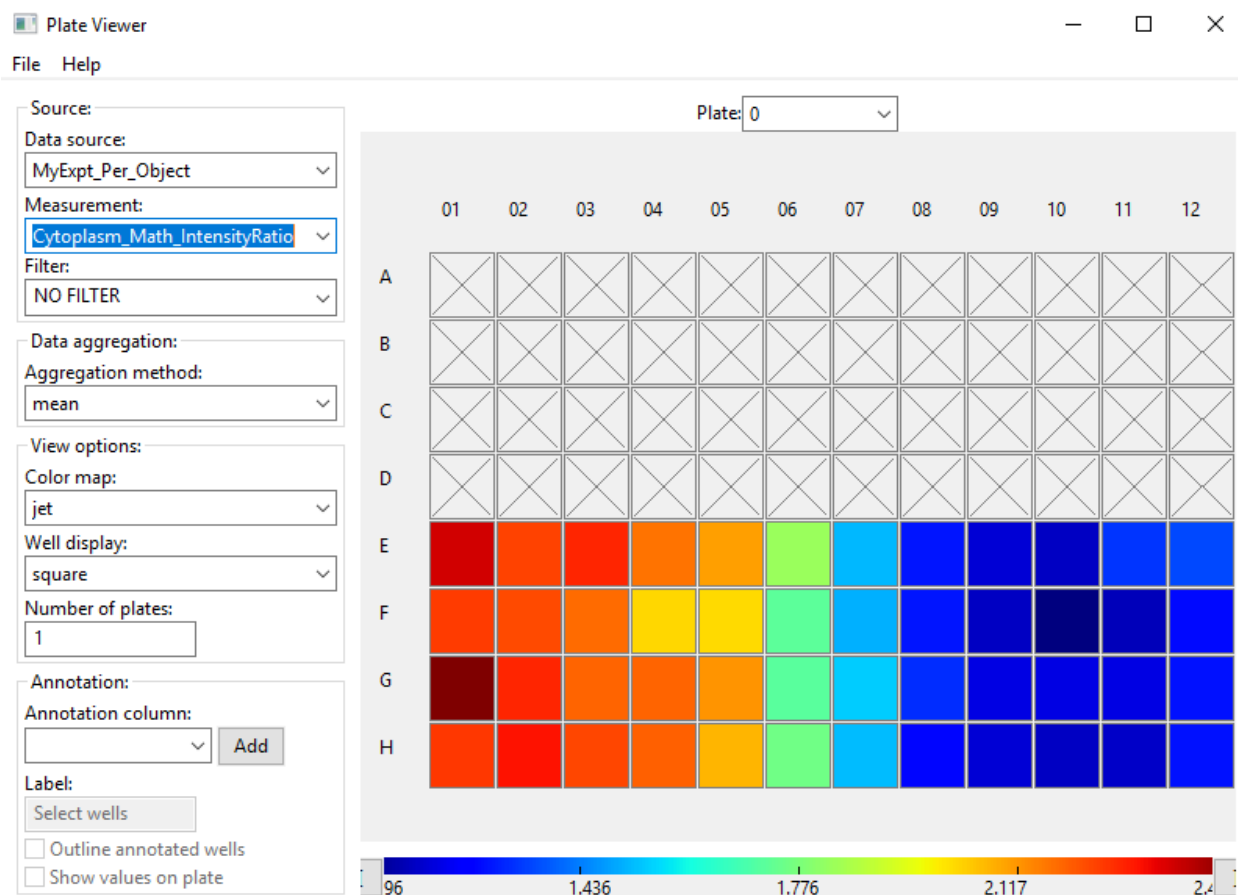

Figure 2: Plate Viewer Interface
- a) Click-on *Plate Viewer* (Figure 2) to display a 96-well plate with the feature values for each well. Only 48 out of the 96 wells have data associated with them.